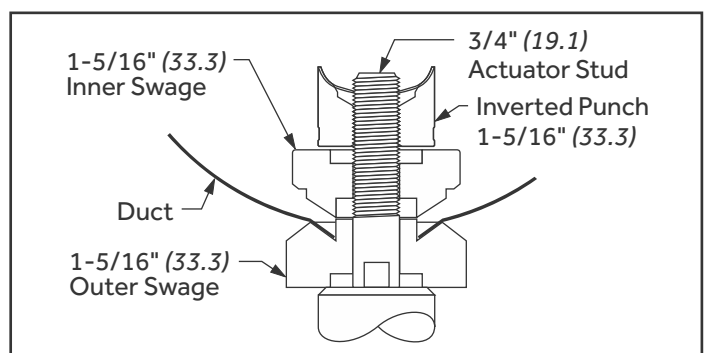

Fig. 36: 1-5/16" (33.3) Swage Configuration
3. Swage Hole: Slide the 1-5/16" (33.3) outer swage tool onto the 3/4" (19.1) actuator stud. Insert the actuator stud and outer swage tool into the 1-5/16" (33.3) hole. From inside the duct, slide the matching inner swage tool onto the actuator stud. Invert and thread the 1-5/16" (33.3) punch onto the actuator stud (cutting surfaces facing away from the inner swage tool) until the inner swage tool, the duct and the outer swage tool are snug. Operate the hydraulic actuator to compress the swage tools together to form the swage. Loosen and remove the swage tool. (Fig. 36)